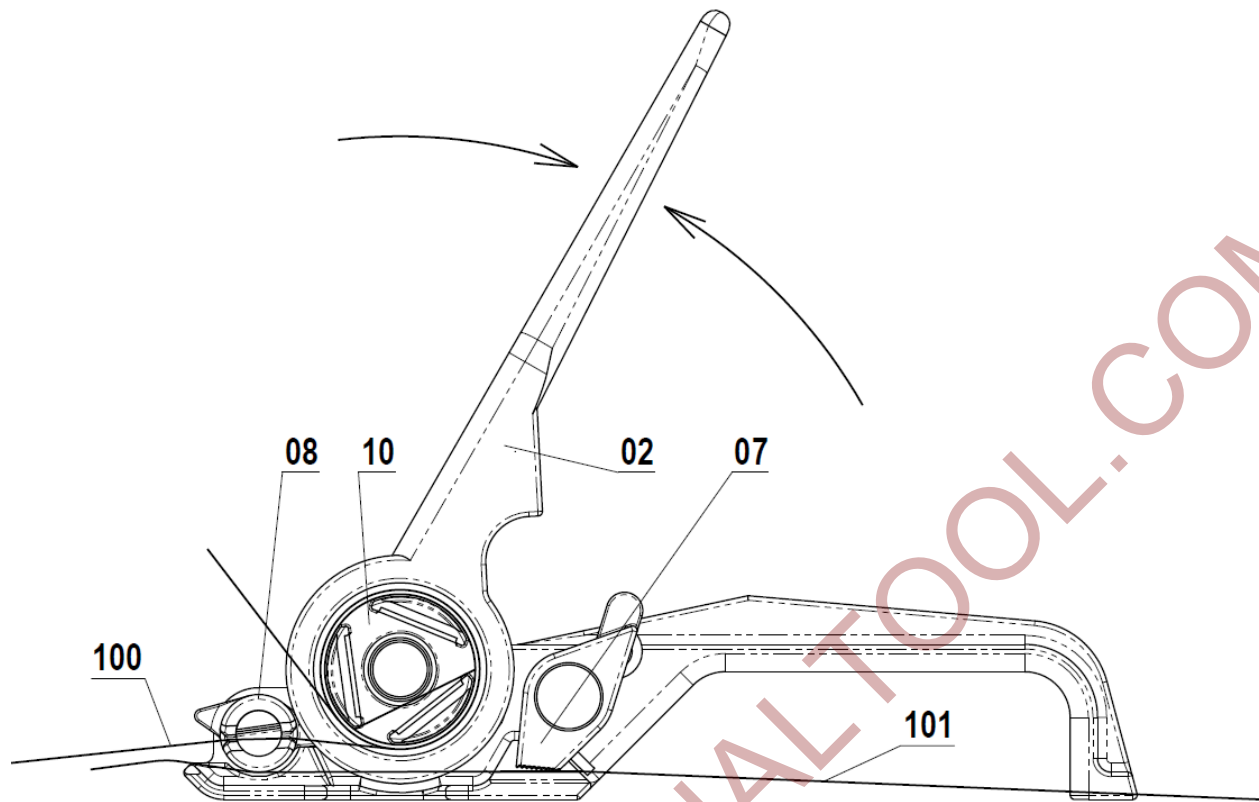

Fig. 4
3. Apply tension by ratcheting **Tension Handle 02** as shown on Fig. 4.